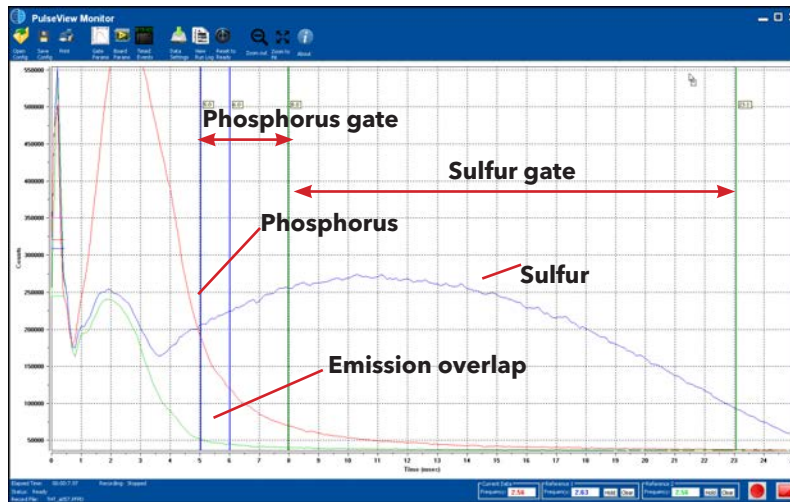
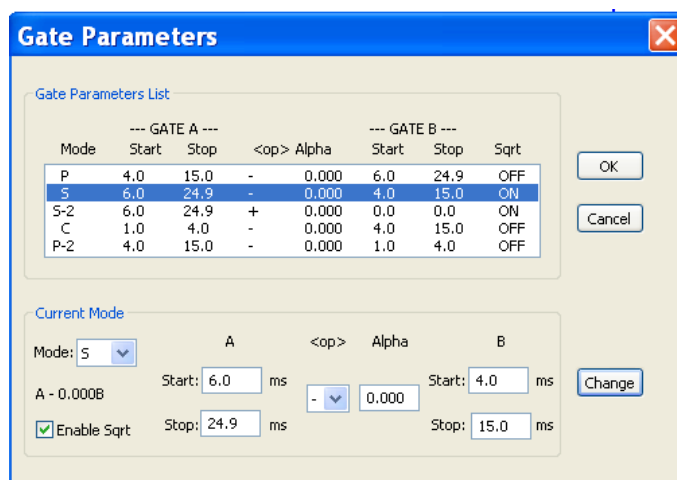
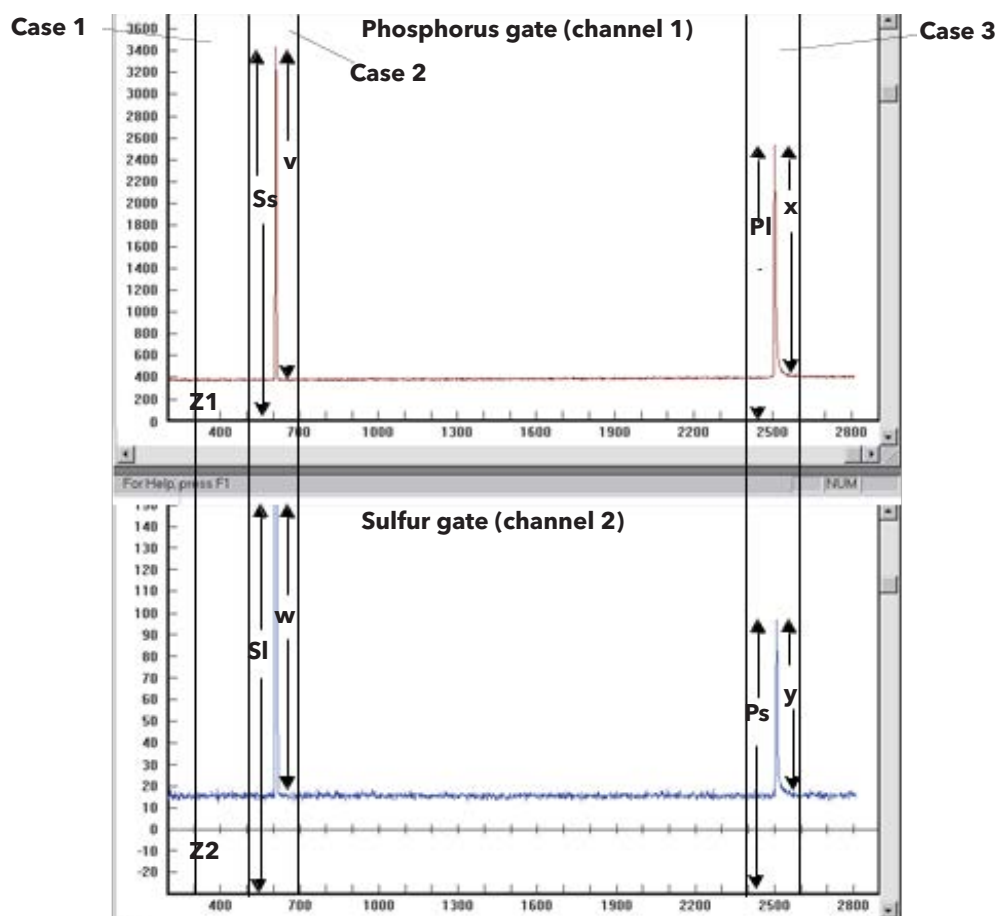

Figure 14.1. Phosphorus and Sulfur Emissions
Figure 14.2. Gate Parameters Window Showing Gate Settings for Phosphorus (P) and Sulfur (S)
Figure 14.3. Chromatograms from Channel 1 (P gate) and Channel 2 (S gate) Using a TBT/THT Standard
To avoid confusion, phosphorus and sulfur are used in the following example to demonstrate how to increase selectivity between two species using PulseView Monitor software's dual gate capability. The gates used to differentiate the phosphorus and sulfur response modes are referred to as gate P and gate S, respectively. The phosphorus and sulfur chemiluminescent time domains and the gate P and gate S settings are shown in Figure 14.1.
As seen in Figure 14.2, PulseView Monitor lets the operator specify two gates, A and B, for each mode within the Gate Parameters screen, enhancing PFPD selectivity for two (or more) species with partially overlapping emission-time profiles. To employ this option, gate A must incorporate a substantial segment of the first species' chemiluminescent time domain that does not significantly overlap with the time domain of species two. Conversely, gate B must include a substantial segment of the second species' time domain that does not significantly overlap with the time domain of species one. For example, maximize selectivity for phosphorus when gate A in the phosphorus mode is set to incorporate as much of the phosphorus chemiluminescent time domain as possible while at the same time minimizing the carbon or sulfur chemiluminescent time domain. (In Figure 14.1, the phosphorus gate is set from four to nine milliseconds, which eliminates most of the carbon response and the back end of the sulfur emission.)
To use the dual gate technique to eliminate interference between two species, set reciprocal gate assignments in the PulseView Monitor Gate Parameters screen. Assign gate A to the species of interest and gate B to the interfering species. For example, specify gate A start and stop times for the phosphorus mode to optimize phosphorus response (4–9 ms), while gate A start and stop times for the sulfur mode are set to optimize the sulfur response (9–24.9 ms). Conversely, gate B in each mode specifies the optimal gate settings for the interfering species (i.e., sulfur in the phosphorus mode and phosphorus in the sulfur mode). Reasonable gate A start and stop times for phosphorus and sulfur are shown in Figure 14.2.
The PFPD provides two separate analog signal output channels to assign the phosphorus mode to channel 1 and the sulfur mode to channel 2. When setting the Alpha value in each mode to zero (Figure 14.2), channel 1 provides the output in the phosphorus mode (i.e., gate P output), and channel 2 provides the output in the sulfur mode (i.e., gate S output). Thus, the output signals from phosphorus and sulfur in channels 1 and 2 are directly proportional to the concentration of each species in the combusted analyte and the average emission coefficient of each species within gate P and gate S, respectively.
Figure 14.3 shows channels 1 and 2 chromatograms derived using the Figure 14.2 gate parameter values together with a pesticide test standard containing tributyl phosphate (TBP) and tetrahydrothiophene (THT). Because the Alpha values are set to zero in this example, the PFPD's interheteroatom selectivity is not optimized using dual gate enhancements.
The first (left) peak in each chromatogram in Figure 14.3 represents the compound with only sulfur (i.e., THT, which contains no phosphorus). A sulfur peak appears in the phosphorus mode because the phosphorus gate (gate P, which is output in channel 1) contains part of the overlap between the phosphorus and sulfur emission lifetimes (shaded area in Figure 14.1). Similarly, the phosphorus peak appears in the sulfur mode because the sulfur gate (gate S, which is output in channel 2) also partly includes the overlap between the phosphorus and sulfur emission lifetimes.
1. Specify the phosphorus and sulfur mode in the PulseView Monitor Gate Parameters screen shown in Figure 14.2. Set the Alpha value for each mode to zero.
3. Ensure a suitable filter for detecting the species of interest is installed in the PMT assembly. For example, the chromatogram shown in Figure 14.3 was obtained using the GG 495 filter to enhance selectivity for phosphorus, which was of low concentration relative to sulfur in the TBT/THT test standard. See Chapter 12 for other filters.
4. Configure the GC for a test run to analyze a suitable test standard containing both phosphorus and sulfur. Ensure each compound incorporated in the test standard contains only one of the heteroatoms of interest. Also, heteroatom concentrations in the test standard compounds should be similar to the anticipated concentrations of these species in the substances analyzed. If this is not the case, adjust estimated Alpha values to adequately subtract the chemiluminescence from interfering species. Figure 14.3 shows the chromatograms obtained from the two output channels using a TBP/THT test standard.
6. Using the two chromatograms, select three segments that represent the following three cases (Figure 14.3).
- Case 2: Small sulfur peak (SS) in channel 1 chromatogram with corresponding large sulfur peak (SL) in channel 2 chromatogram. Measure the heights of the two peaks above zero (Figure 14.3).
- Case 3: Large phosphorus peak (PL) in channel 1 chromatogram with corresponding small phosphorus peak (PS) in channel 2 chromatogram. Measure the heights of the two peaks above zero (Figure 14.3).
The TBP/THT standard generates the two chromatograms shown in Figure 14.3, producing the following results: